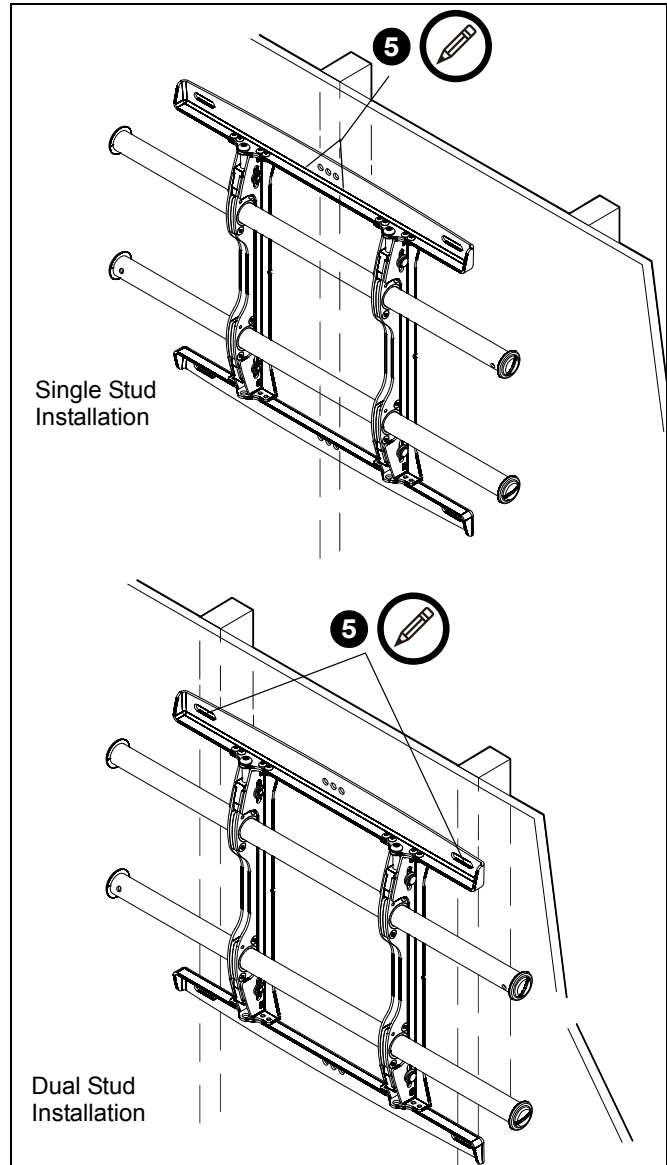

Figure 2
5. Using a level, mark the wall on each stud to attach the mount through the upper mounting slots. (See Figure 2)
NOTE: The MSM and MTM may be attached through the mounting slots on dual studs, or through the center mounting holes on a single stud. (See Figure 2)